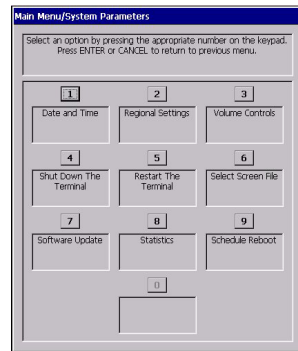

Fig. 7-5. Terminal system parameters.
3. Select the **System Parameters** option by pressing number **(5)** on the alphanumeric keypad. The **System Parameters** main menu appears, as shown in Figure 7-5.